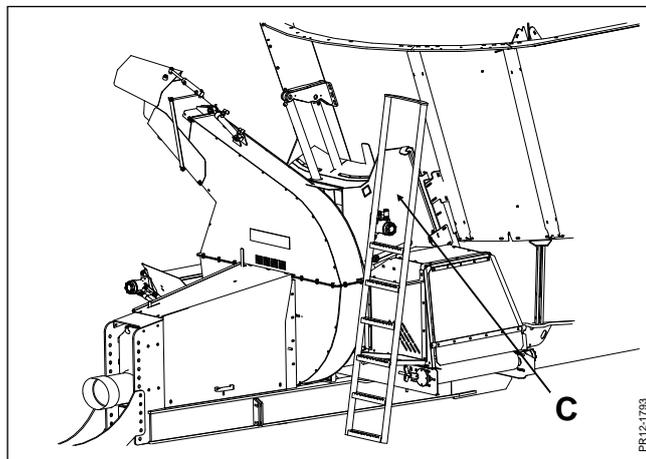
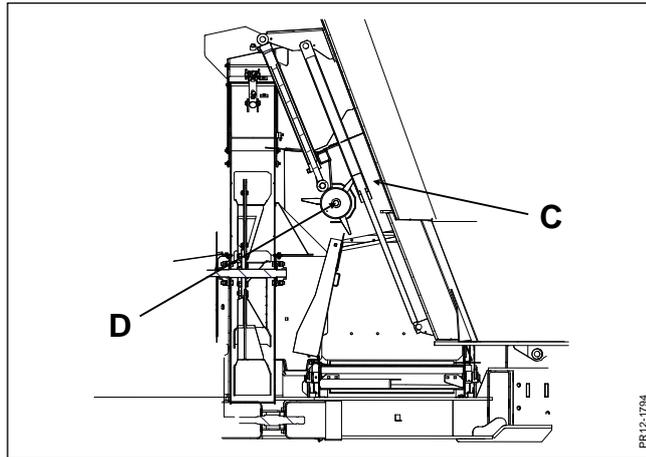

Fig. 2-2
Fig. 2-3
**Fig. 2-2** This combination is possible because the straw feeding rotor (unit) (C) can move up and down, whereby you switch from feeding to straw bedding and vice versa.
**Fig. 2-3** Shows the same as Fig. 2-2, only illustrated by sectional view lengthwise of the machine. This is the adjustment for feeding. The straw feeding rotor (**D**) cannot rotate in this position.
- 1) Before starting the straw bedding, the straw feeding unit (see fig. 2.2 (C)) must be moved down by pushing switch (1) to the left.
- 2) The straw bedder is connected by pushing switch (2) to the right.
2) Before the feeding is started, the straw feeding unit (see fig. 2.2 (C)) must be moved up by pushing switch **(1)** to the right.